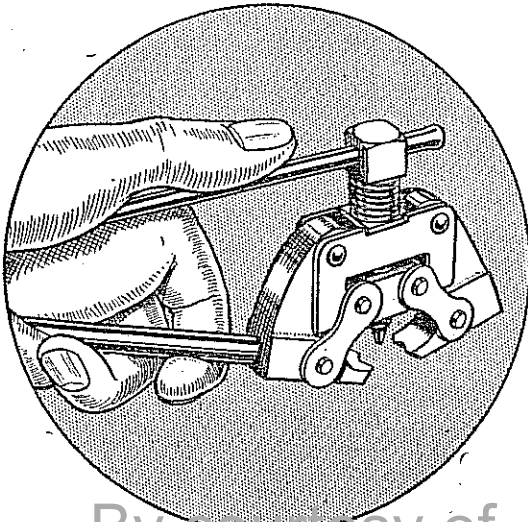

Fig. 26.
2. Grip the handle and the tommy bar and the jaws will open (Fig. 26).